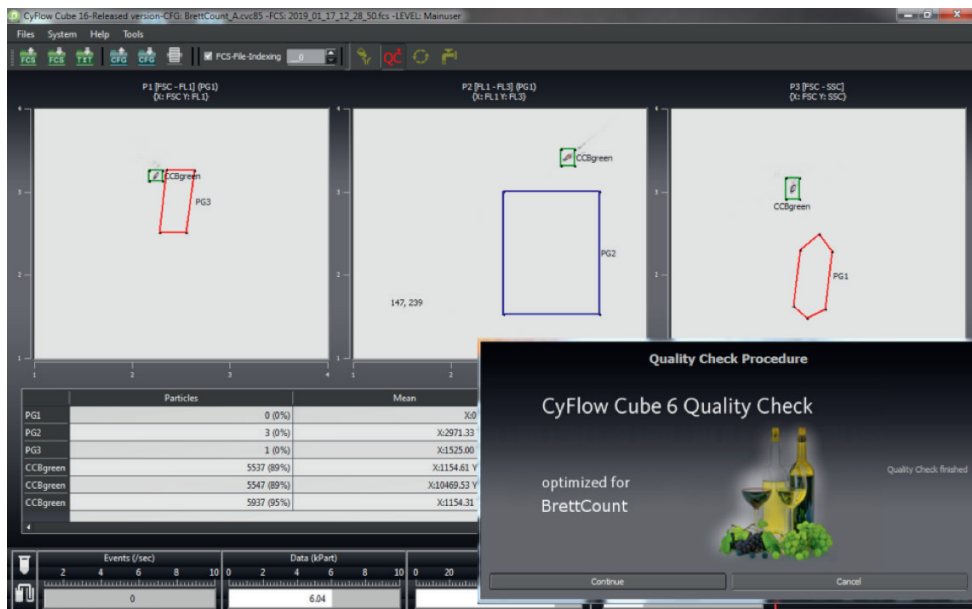

Figure 5: Finalized CyFlow™ Cube 6 Quality Check. Beads population in all 3 “CCBgreen” regions.
5. The assay setup and quality control require Count Check Beads green. The beads signals should be positioned in each dot plot in the region "CCBgreen" (**Figure 5**, page 16).